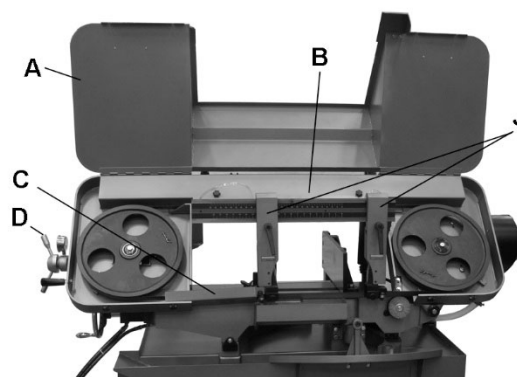

Figure 8-1: installing blade=
3. Open blade wheel cover (A, Figure 8-1). Make sure rubber stop at top of bow is properly adjusted to prevent cover from falling.
4. Remove upper gap cover (B) and lower blade guard (C).
5. Release blade tension by turning blade tension handle (D) counterclockwise.
Blade tension has been preset by the manufacturer; if further adjustment is required, or after installing a new blade, turn handwheel (D, Figure 8-1) clockwise to appropriate tension for the installed blade.
2. Loosen four knobs and open wheel cover (A, Figure 8-1). Remove upper gap cover (B, Figure 8-1), lower blade guard (C, Figure 8-1), and guide brackets (J, Figure 8-1).
9. Install upper gap cover (B, Figure 8-1) and left blade guard (C, Figure 8-1).
10. Close blade wheel cover (A, Figure 8-1) and secure with the four knobs.
The brackets (J, Figure 8-1) should be set as close to vise jaw as possible. The right bracket has minimal adjustment and is set by the manufacturer to clear the stationary vise jaw. The left bracket can be moved to accommodate position of floating vise jaw. Loosen handle and slide bracket into position, then retighten handle.